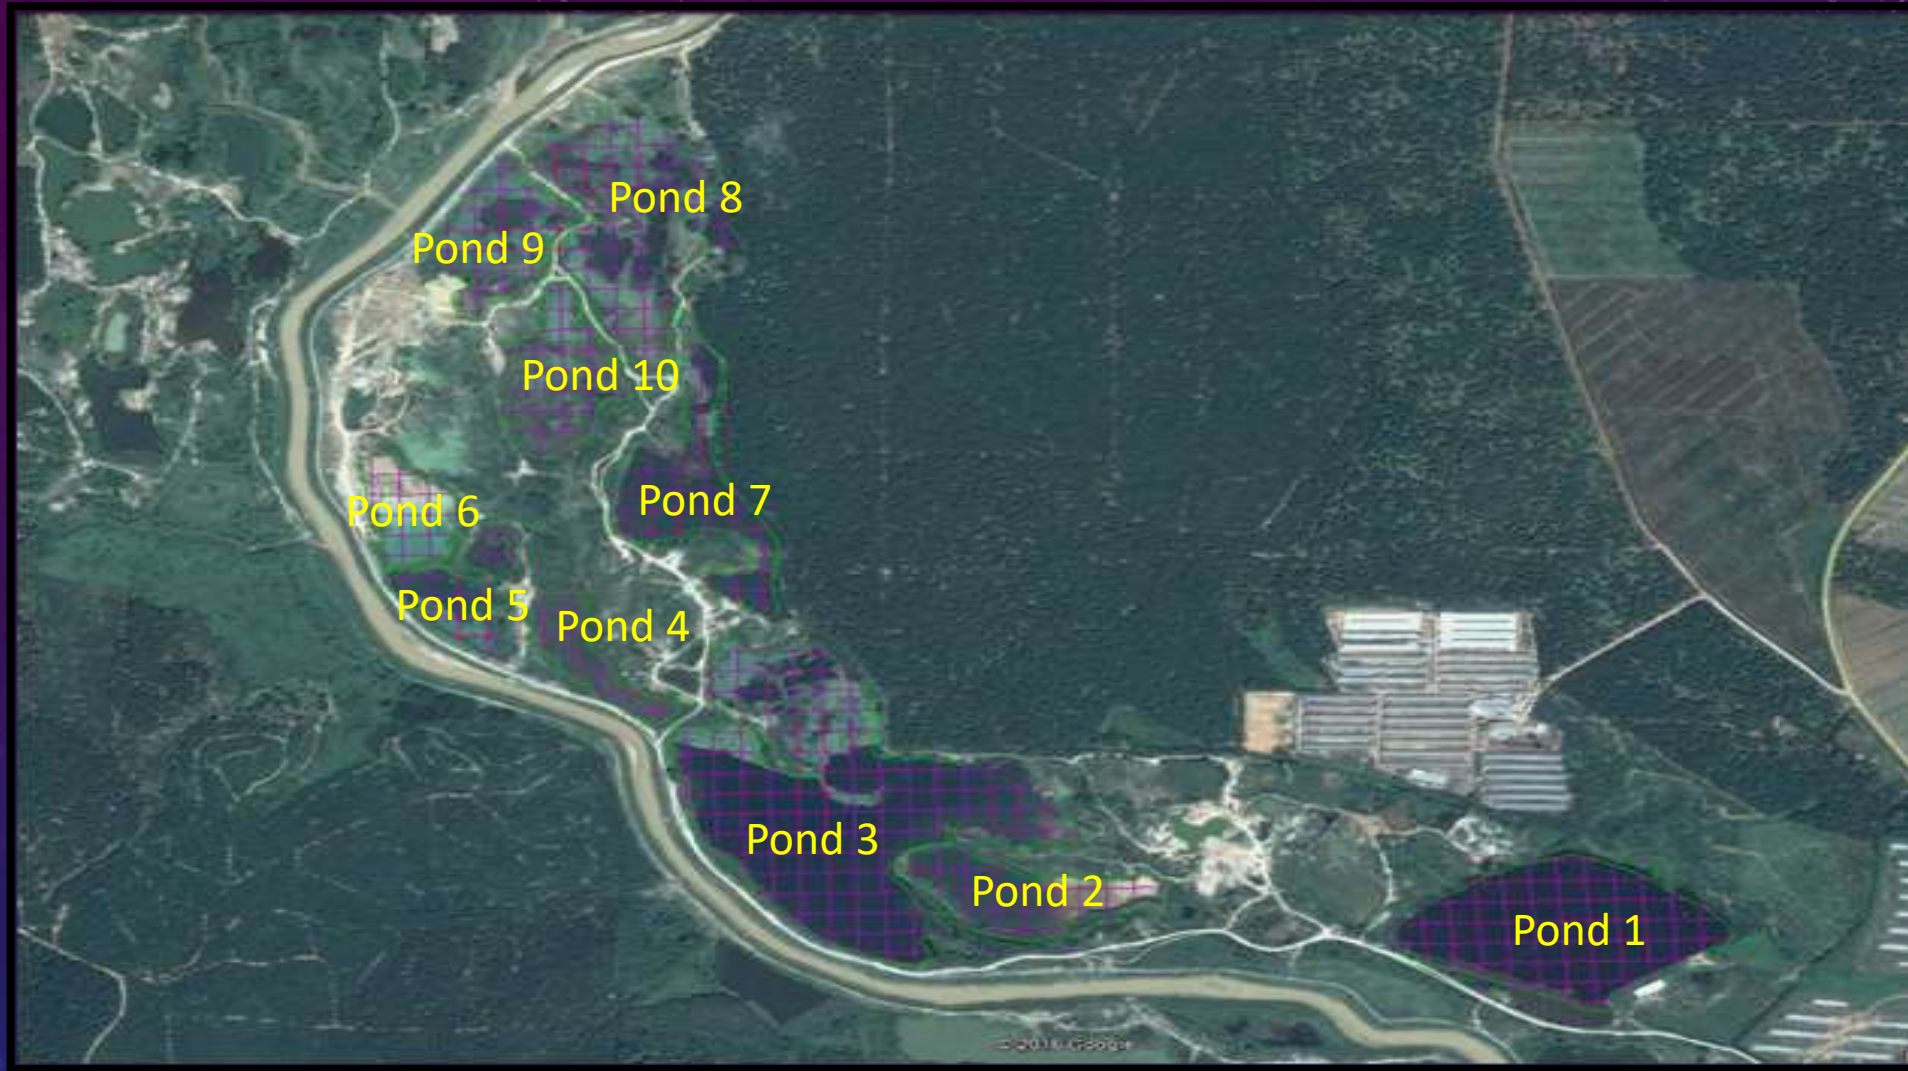

Figure 1: Topographic and Bathymetric Survey Areas
- Bathymetric profiling at 50m x 50m grid line (Figure 1) of the watered portion was carried out over the 7 ponds (Pond 1, 2, 3, 4, 5, 7, and 9). Remaining 3 ponds (Pond 6, 8 and 10) was carried out by method of manual sounding and topographic profiling.